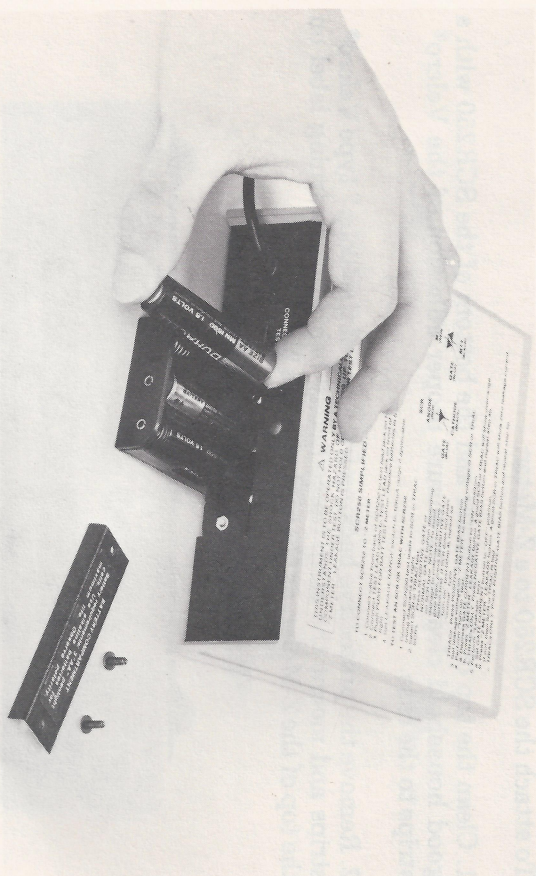

Fig. 1: Installing batteries.
3. Install 3 "AA" batteries, matching the polarity of the batteries and the polarity indicators on the battery compartment as shown in Figure 1.